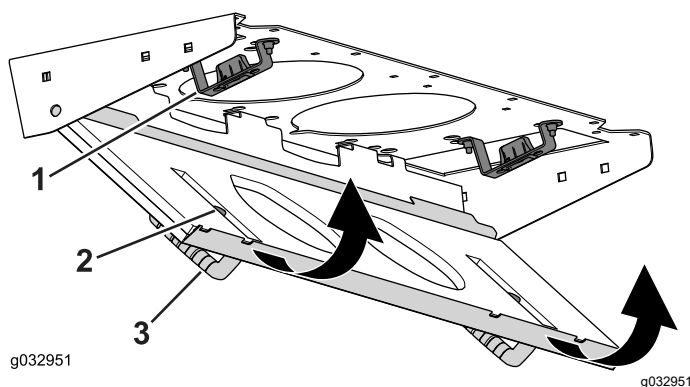

Figure 99
4. Rotate the filter screen around the tabs until the latch locks into the latch-mount assembly (Figure 99).